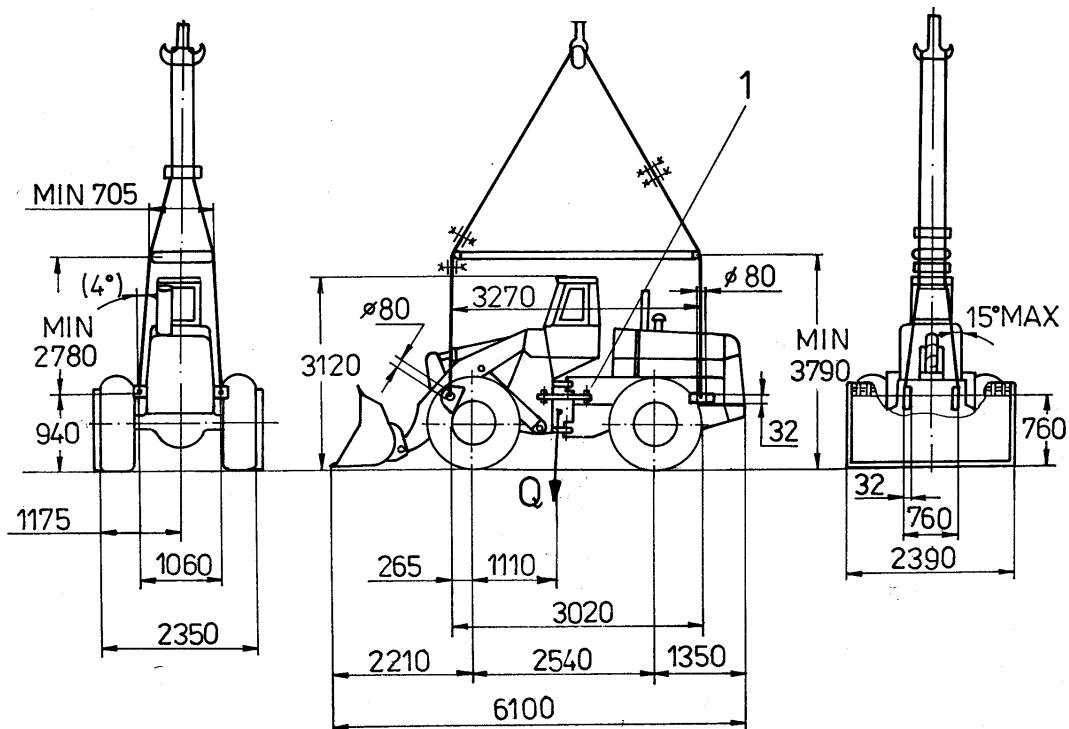

Fig. 3.4. Method of Handling 515C Loader by a Crane (for a machine equipped with 15.5R25 Tires and 1.53 [m³]. bucket)
2. During transportation by sea, when it is necessary to carry a loader by means of a crane, use the method of fastening the loader that will ensure maximal safety of persons loading the machine and will not result in damage of the machine. The lifting slings used for fastening the loader should be attached only to special lifting lugs marked with special plates on the machine (Fig. 3.4).